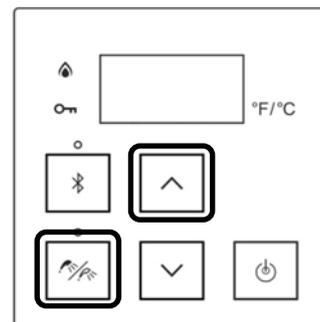

Figure 66
1. To lock the integrated controller, press and hold down the "Priority" button (Figure 66).
2. While holding down the "Priority" button, press the up arrow button (Figure 66) until a beep is heard (approximately 5 seconds). Then, release both buttons at the same time.